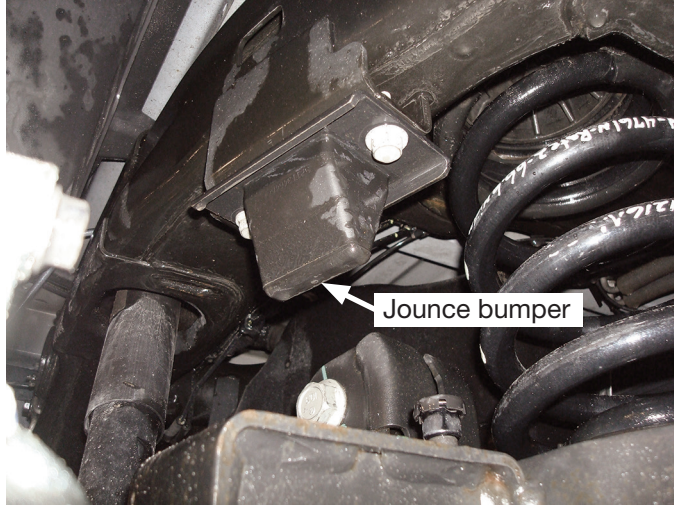

Fig. 6
- Remove the jounce bumpers from both sides (Figs. 6 & 7).